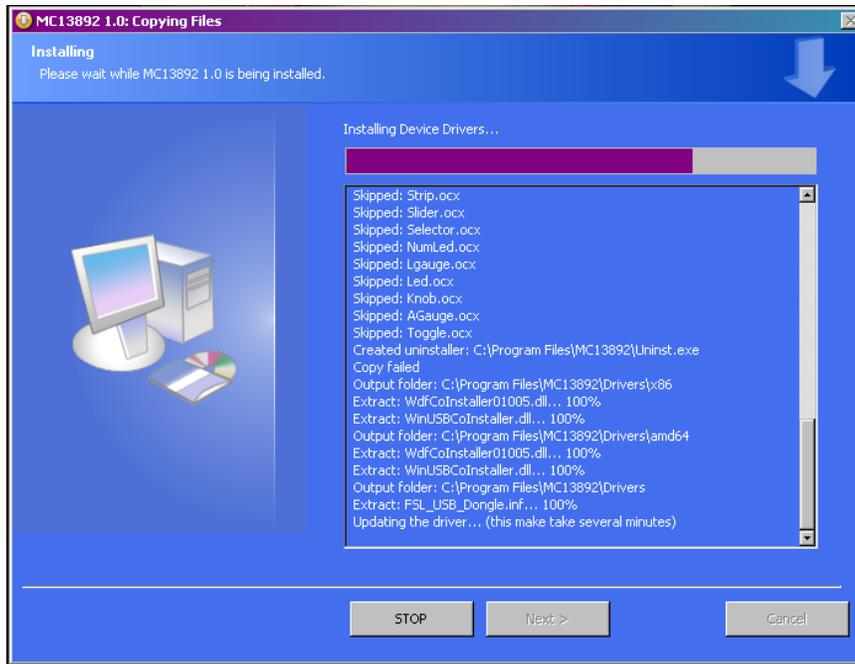

**Figure 14. Choose Component Window**
3. Figure 14 shows the application components and the device drivers for the USB Dongle. There is no reason for users to uncheck the options to install the files.